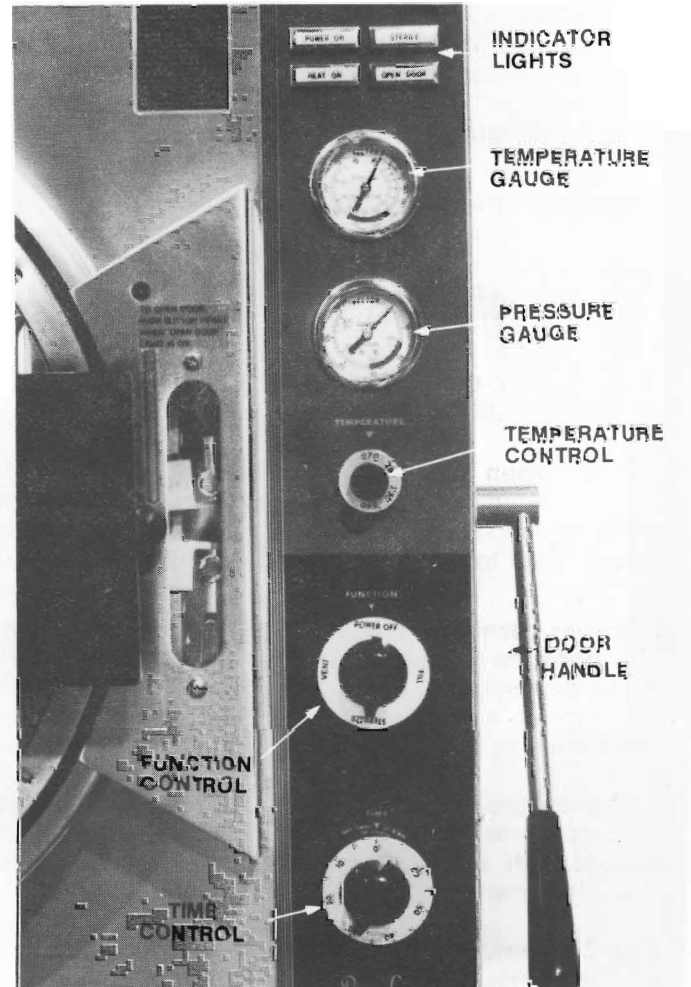

FIGURE 2 — MAGNA-CLAVE CONTROLS
1.04 **Door Handle** (Figure 2) - When door handle is in down position, the door is locked and the rim is completely sealed. When door handle is in upward position, the door clamp ring is expanded. To open door, move door handle to upward position by the following method:
1.05 **Indicator Lights** (Figure 2) - The four indicator lights are described as follows:
1.06 Temperature Gauge (Figure 2) - The **Temperature** gauge measures the steam temperature in the discharge line from the chamber. It is marked with a green area from 250°F to 270°F to indicate normal sterilizing temperatures.
1.07 Pressure Gauge (Figure 2) - The **Pressure** gauge measures pressure within the chamber. It is marked with a green area between 15 and 31 PSI (pounds per square inch).
1.08 Temperature Control (Figure 2) - Temperature and pressure inside the chamber are controlled by the **Temperature** control. It may be set from approximately 240°F to 270°F. Markings on the control indicate approximate settings. For a more precise setting, refer to page 4, paragraph 2.03 (f) - Set Temperature.
1.09 Function Control (Figure 2) - All operations of the **MAGNA-CLAVE** are controlled by this control. They are as follows:
1.10 Time Control (Figure 2) - The **Time** control is manually set at the beginning of each sterilizing cycle. Timing begins when the preset temperature is reached and continues until it reaches "0".